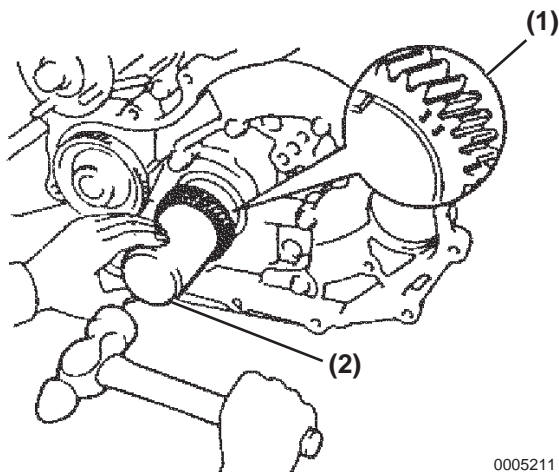

Figure 5-211
1. Install the timing gear with its timing mark **(Figure 5-211, (1))** facing to the front.
3. Tap in the timing gear using a suitable tool **(Figure 5-211, (2))** to install.